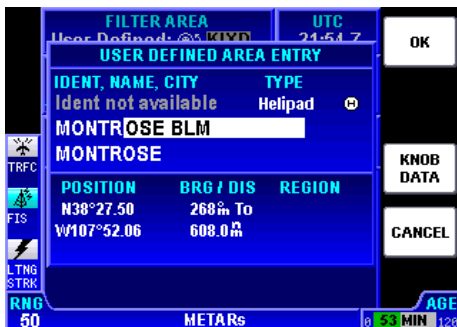

Figure 2-69
7. Turn the Rotary Knob one click clockwise. The first occurrence of names starting with Montrose in the database is now displayed as in Figure 2-69.